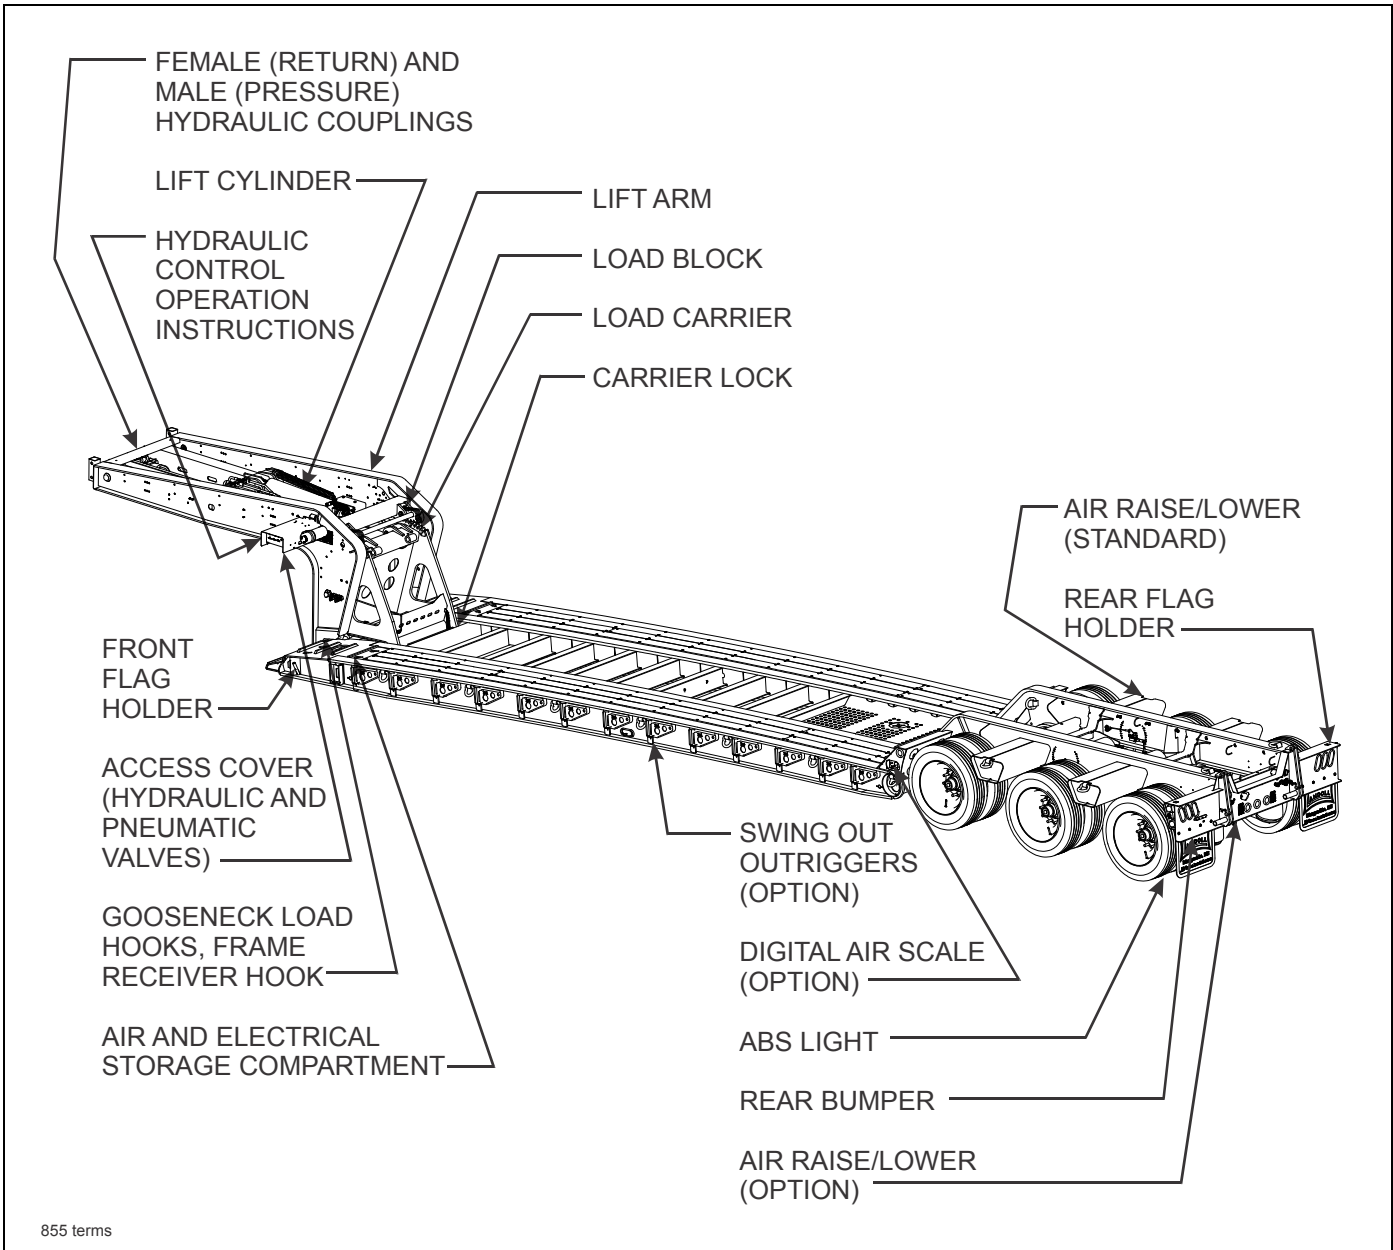

Figure 3-1: Trailer Terminology
This section supplies information for operation of the semitrailer. It describes and locates controls and gives general operation procedures. Read all instructions, warnings, cautions, and danger notes before attempting to operate the semitrailer. Operators must have proper training before operating the semitrailer. **(See Figure 3-1 for location of semitrailer parts.)**
3. Before moving the trailer, activate the **TRAILER LIFT lever “DOWN”** until the semitrailer load carrier rests completely on the load blocks (**See “Trailer Lift Lever” on page 3-8.**) (**See Figure 3-1.**)
The **TRAILER LIFT lever** (See Figures 3-1 and 3-3) is located on the driver's side of the gooseneck assembly. It is the middle lever and has three positions: